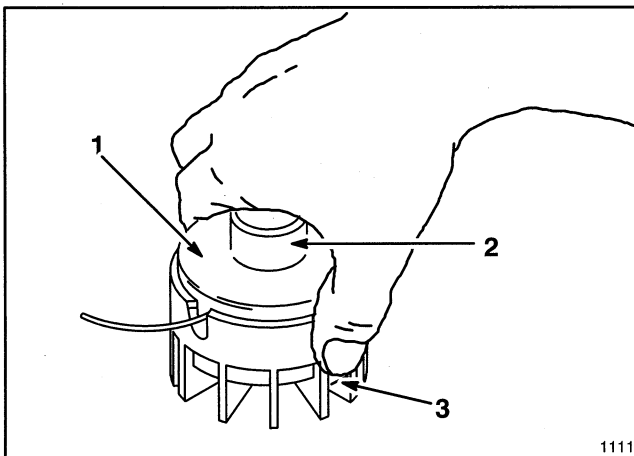

Figure 19
2. To remove empty spool, invert trimmer, place hand over spool and press in tabs on each side of cap (Fig. 19).